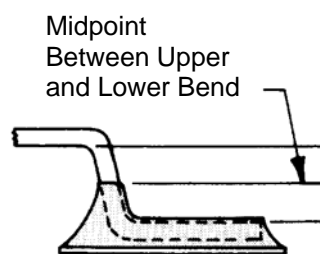

Figure 26
- D. The maximum height of the heel fillet for the lap and "J" leads shall be no greater than one half the distance between the lower and upper bend, Figure 26.